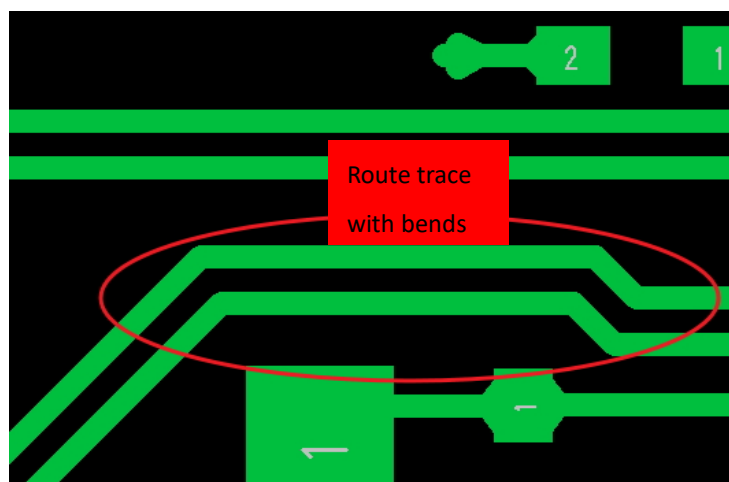

Figure 4
- It is recommended to straight route USB2.0 differential pair and less route them with bends as Figure 4.